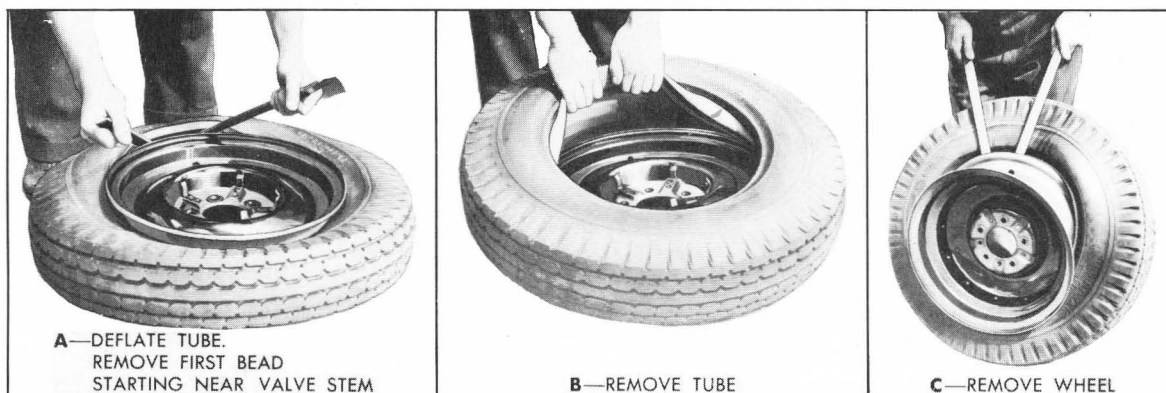

Figure 6-32—Removing Tire and Tube
1. Deflate tube completely. Loosen both beads from rim ledges, using tool if necessary. Insert two tire tools about 8 inches apart between bead and rim flange near valve stem and pry short lengths of bead over flange. See figure 6-32, view A. Then, leaving one tool in position, follow around rim with the other tool, taking small bites, to remove remainder of bead.
2. Remove inner tube. See figure 6-32, view B. Stand wheel in upright position with bead
in well of rim at bottom. Insert tool between bead and rim flange at top side of wheel and pry wheel out of tire. See figure 6-32, view C.